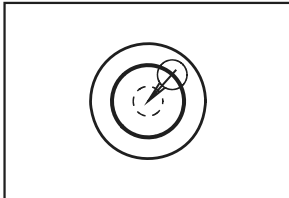

Fig. 3
1. Turn on the power switch (12). The unit (laser level) projects the horizontal laser- beam line.
2. If the unit is placed in a slanting position, it will not emit any laser lines at all. Adjust the level adjusting ring (9) so that the air-bubble in the round vial (4) is centered. (See the Fig. 3)
3. If you work with the receiver (optional accessory), press the interior/exterior mode change button (2). Exterior mode indicator LED (green) (3) will light on.